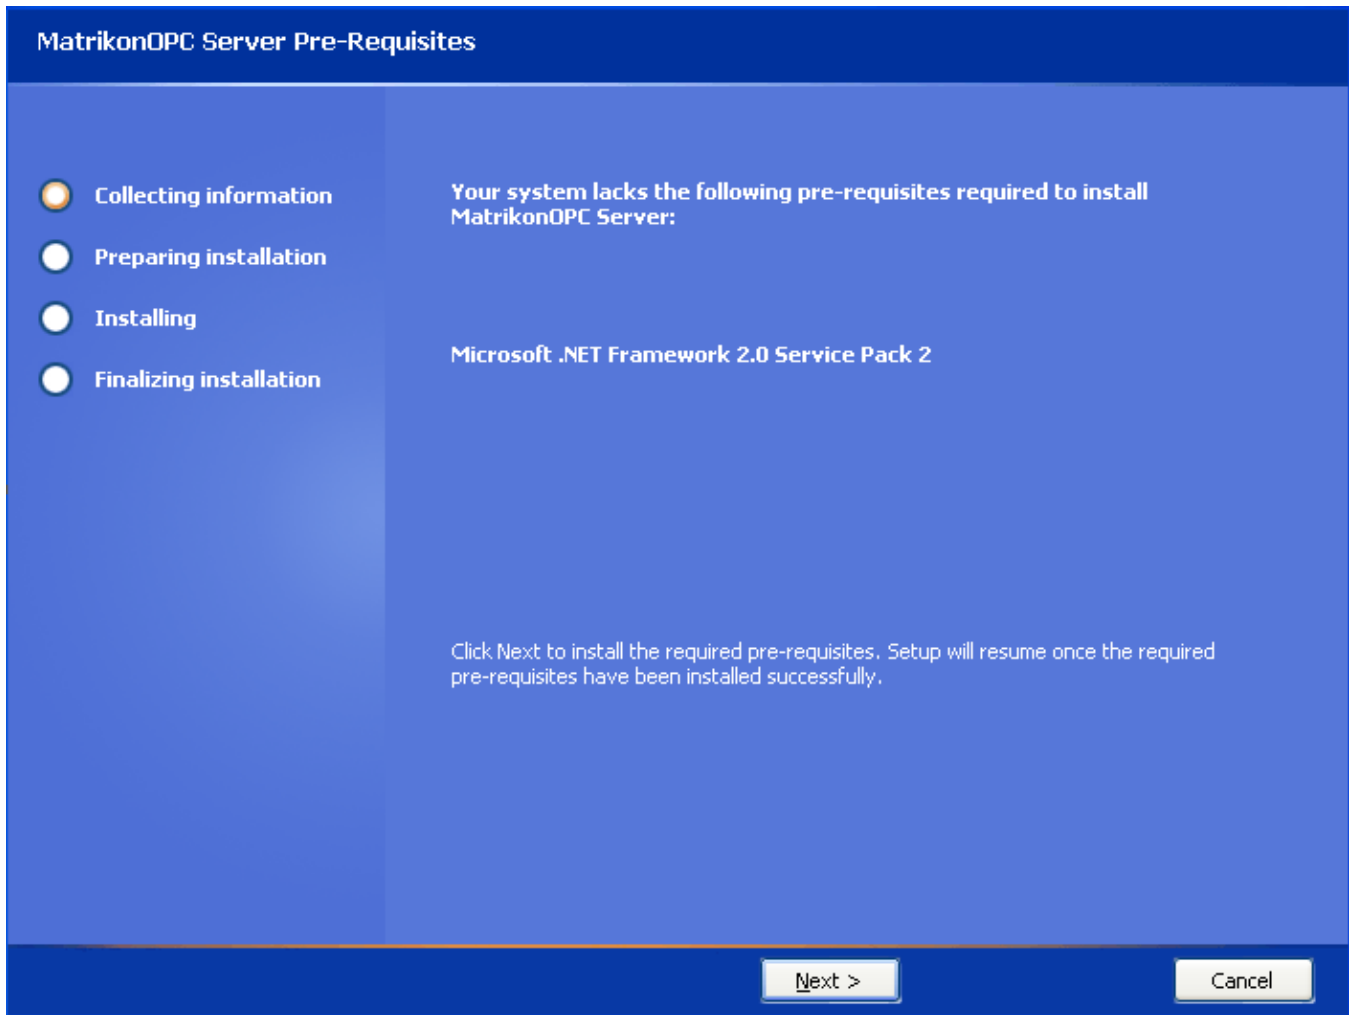
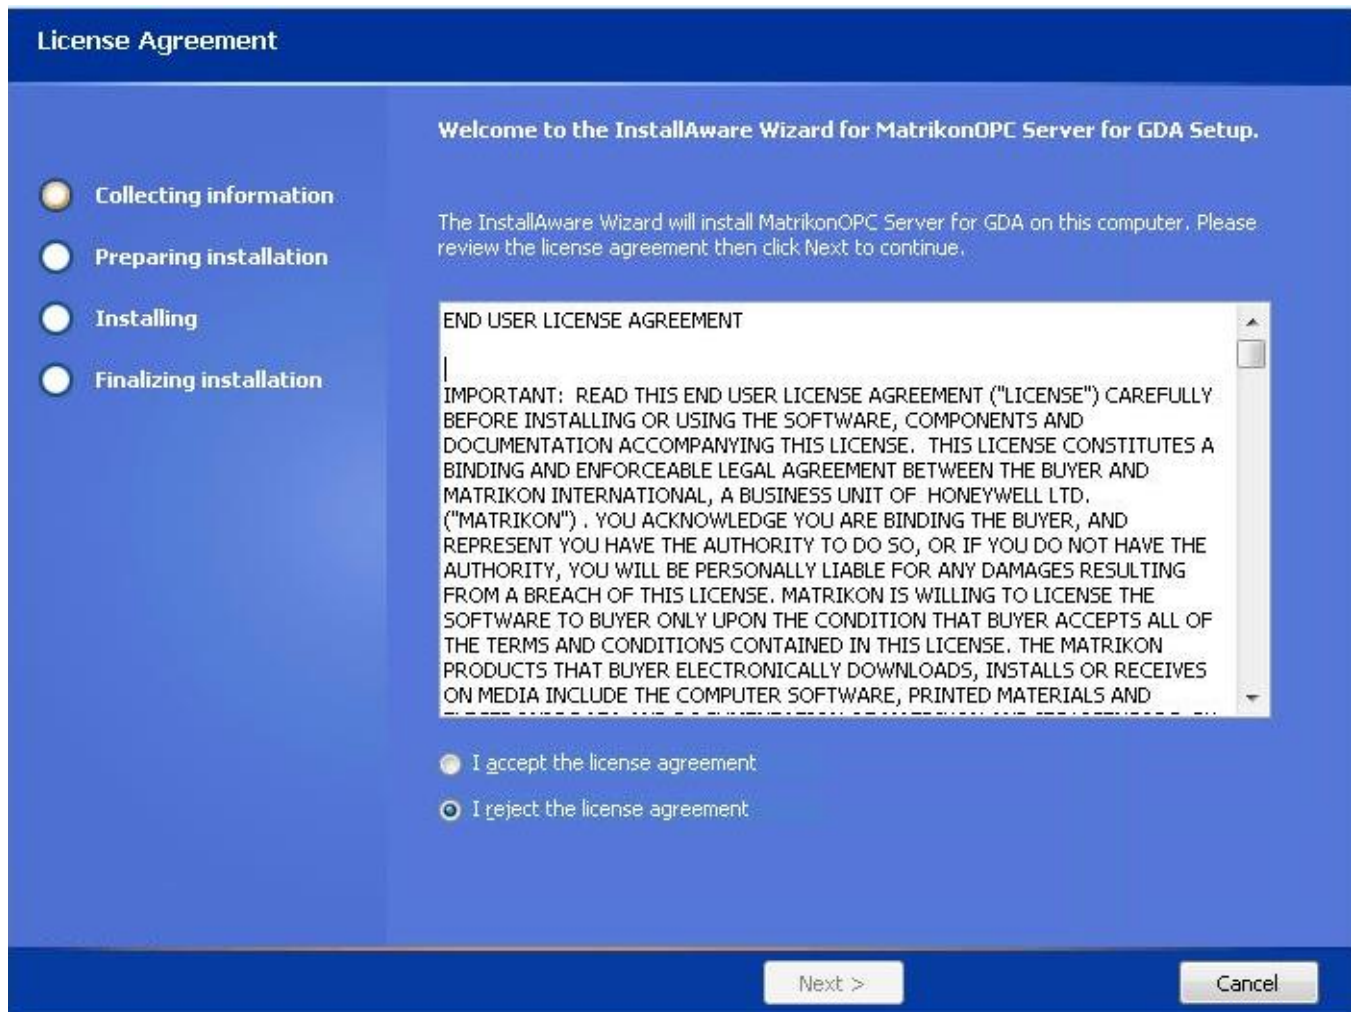

Figure 78 - Pre-Requisites Screen
Figure 79 - License Agreement Screen
3. Either a **Pre-Requisites** screen (Figure 78) appears, or you are taken directly to the **Licensing Agreement** (Figure 79) screen. If the **Licensing Agreement** screen is the displayed screen, go to step 5.
5. After all pre-requisites have been installed, the **License Agreement** screen (Figure 79) appears.